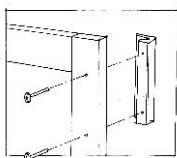

Figure 1
Attach the Pull Handles to the Door (N) and (O) using the Machine Screws. (See figure 1)